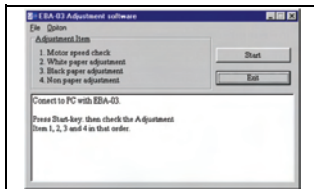

Figure 4-7 Initial Adjustment Software Screen
- Double-click on the EBA-03 icon. The opening screen shown in Figure 4-7 will appear. Click **Start** and follow the on-screen instructions.